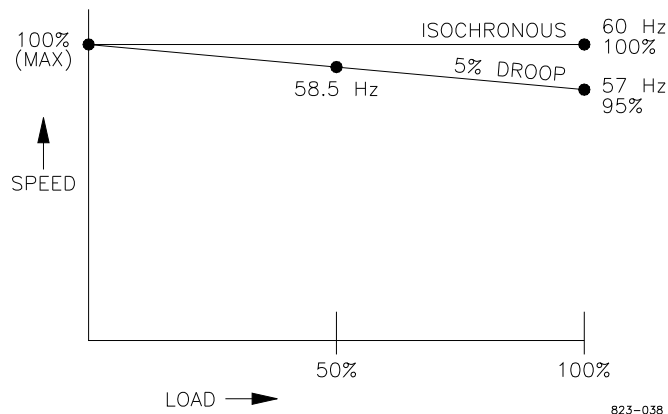

Figure 5-2. Droop Adjustment
14. Enter the calculated Reset, Compensation, and Gain setting into the control. Save these settings in the control. The assumption is these settings will produce good performance as shown in Figure 5-2. If this is not the case, recheck all readings and calculations or repeat this entire procedure.
15. Bump the actuator (you can use a larger bump this time) to test control response. Figure 5-2 shows the expected response.